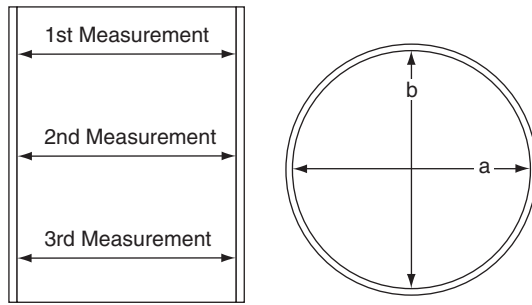

Fig. 13.30 Cylinder bore measurement
11. Figure 13.30 shows the positions in an engine cylinder at which measurements of diameter are taken in order to assess wear. The measurements are taken in line and at right-angles to the crankshaft, at the three levels shown. The third measurement is taken at the lowest extent of piston ring travel. The terms ovality and taper are used to describe the condition of the cylinder bore. Ovality is the difference between a and b, and taper is the difference between the largest diameter at the first measurement and the smallest diameter at the third measurement.